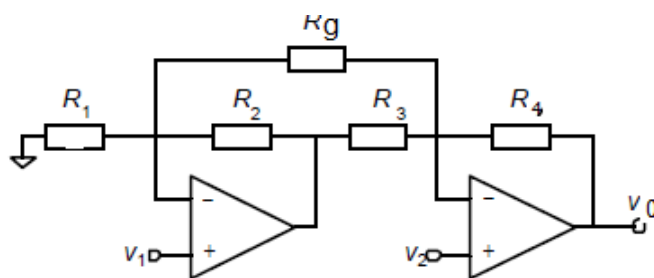

Fig. 4.4
The output of the Wheatstone bridge is a differential (floating) voltage, that is, the voltage difference between two nodes. In addition, it is a small value. A differential amplifier can be used to perform signal conditioning, i.e. to obtain the voltage difference and to multiply it by a known factor. This device is commercially available as a single chip. The Texas Instruments INA126 monolithic differential amplifier is the chosen one for this purpose, see datasheet in Atenea. The inner circuit of this device, a two OpAmp differential amplifier, is shown in Fig. 4.4.
**Question 3.7:** Analyse the circuit of Fig. 4.4 and obtain its gain expression  $V_0/(V_2-V_1)$  when  $R_1/R_2=R_4/R_3$ . Identify the role of  $R_g$  as a gain trimmer without compromising the  $R_1$ - $R_4$  resistance matching.